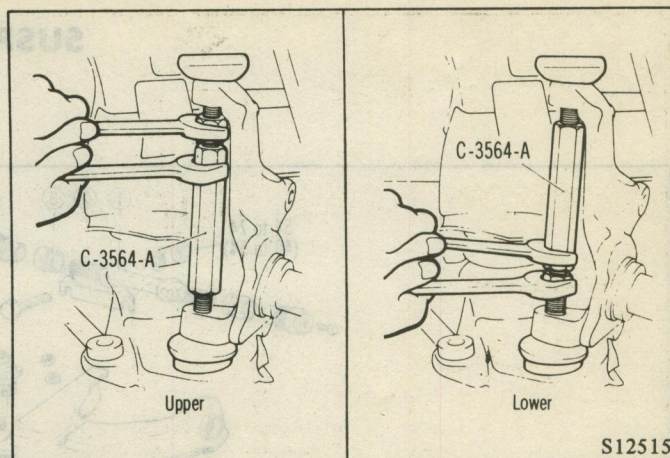

Fig. 20 Loosening Connection Ball Joint and Knuckle
(5) Remove cotter pin and nut from upper and lower ball joint studs.
(6) Using special tool (C-3564-A), loosen connection between ball joint and knuckle. (Fig. 20)